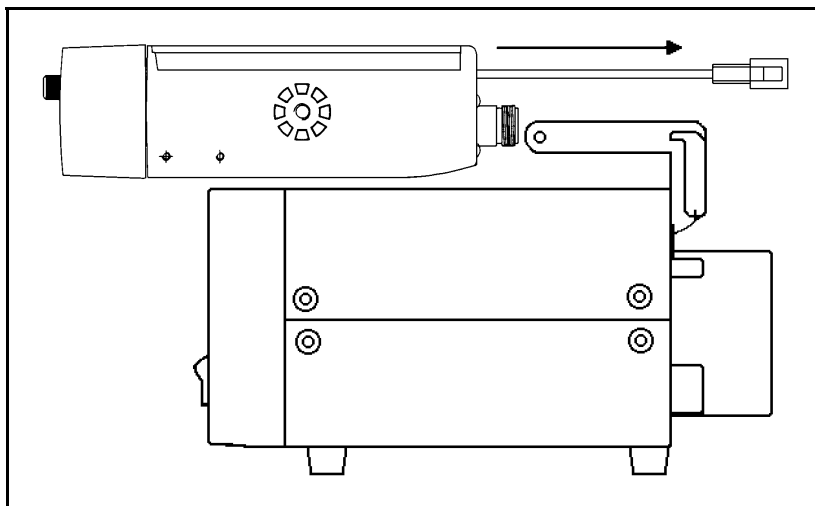

Figure 10 - Mounting the Radio Unit
3. Slide the radio unit to the rear of the power supply, as indicated in Figure 10. Attach with mounting bracket screws (2).
Align the sides and front of the radio unit with the power supply the re-tighten the rear cover mounting screw as illustrated in Figure 10.